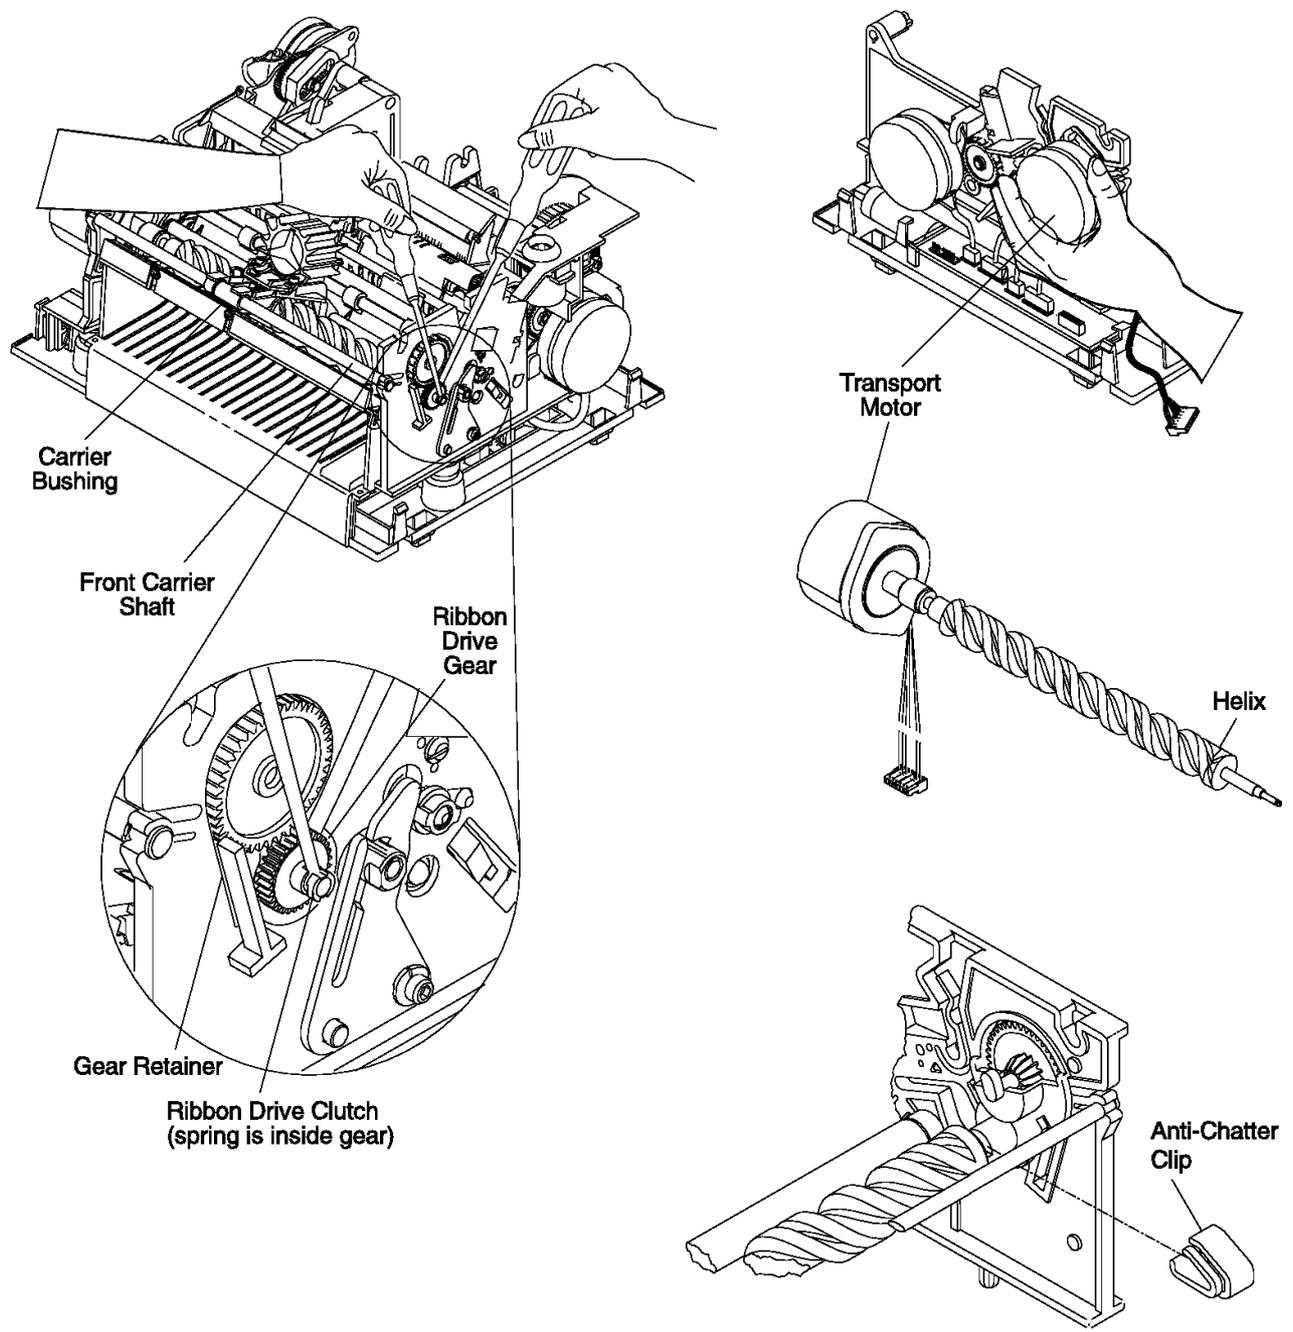

Figure 6-85. Transport Assembly
5. Remove the ribbon drive clutch at the end of the transport shaft by prying the gear tabs open with a screwdriver while pushing the gear out with another screwdriver as shown. See Figure 6-85 in topic 6.38.34.2.
9. Remove the anti-chatter clip (if present) from the helix bearing sleeve on the right side frame. See Figure 6-85 in topic 6.38.34.2.
12. Remove the front carrier shaft by gently releasing one end at a time from the side frames. See Figure 6-85 in topic 6.38.34.2.
2. Reinstall the front carrier shaft by gently pressing one end at a time into the side frames. Ensure that the carrier bushing is installed correctly. See Figure 6-85.
6. Remove the ribbon drive clutch by prying the gear tabs open with a screwdriver while pushing the gear out with another screwdriver as shown. See Figure 6-85 in topic 6.38.34.2.